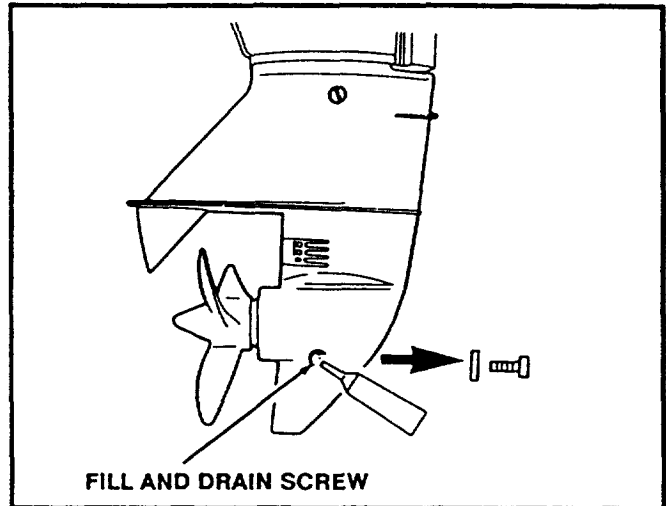

FIGURE 33
- Remove fill and drain screw and washer, and insert nozzle of tube into hole (Figure 33).